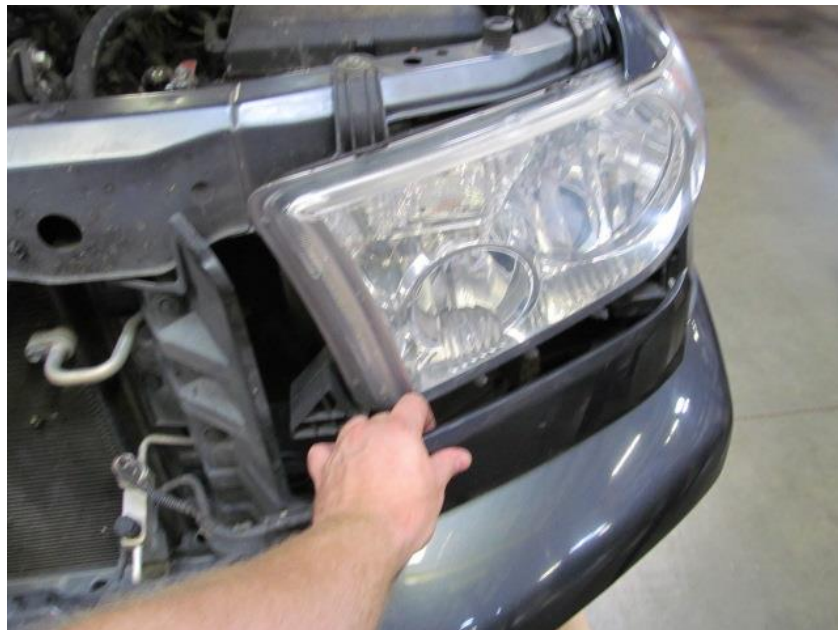

FIGURE 4:
3. GENTLY REMOVE COVER UNDER HEAD LIGHT (TAKE EXTREME CAUTION WITH THIS PIECE)(BOTH SIDES). SEE FIGURE 4